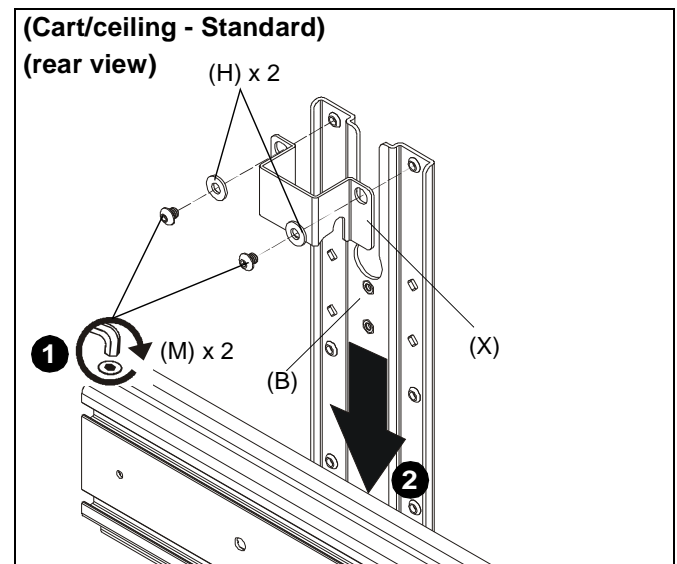

**Figure 6**
- (For **minimum/intermediate extension**) Use two #10-24 lock nuts (G) to secure upright bracket (A) to main bracket (B) and adapter plate (V). (See Figure 6)
- (For **minimum/intermediate extension**) Use 1/4-20 x 5/8" hex head flange bolt (N) and center washer (Y) to secure upright bracket (A) to main bracket (B). (See Figure 6)